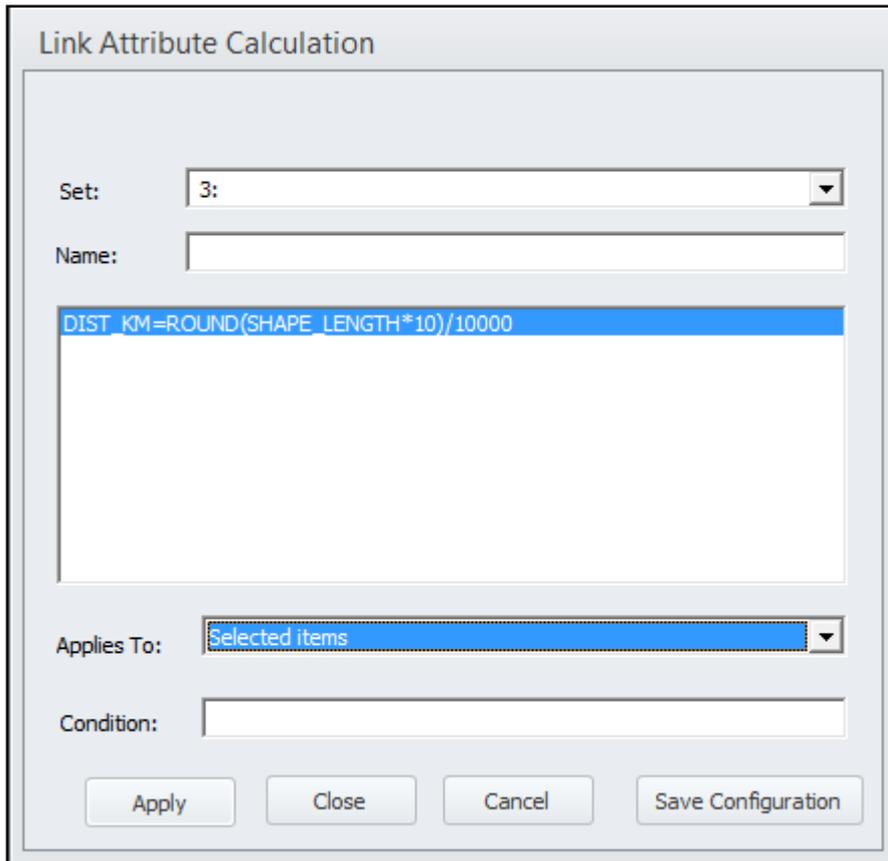

Figure 56 The Link Attribute Calculation window.
- m) DIST_KM: update using the SHAPE_LENGTH value using Link -> Compute tool as displayed in Figure 56 (note that "Selected items" must be selected in the "Applies To:" field)